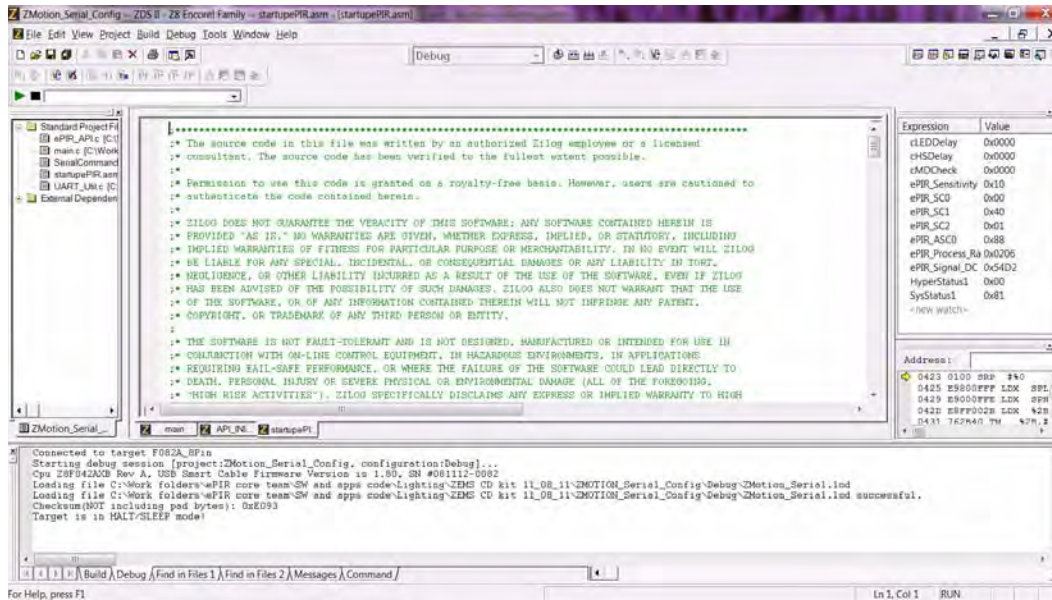

Figure 15. ZDSII's Debug Output Window for the ZMOTION\_Serial\_Config Project
- An information notice may appear, indicating that the silicon is not the latest version. This occurrence is normal and is not an issue. Click **OK** to continue. You should see a message in the Debug Output Window indicating that the load was successful, as shown in Figure 15.